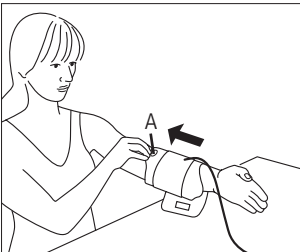

Fig. 1
- The blood pressure must be measured on a bare upper arm. If the cuff is completely open, thread the end of the cuff through the metal ring to form a loop. The hook-and-loop fastener must face outwards. Hold the cuff by the grip tab A (see Fig. 1) and pull it up over your upper arm.